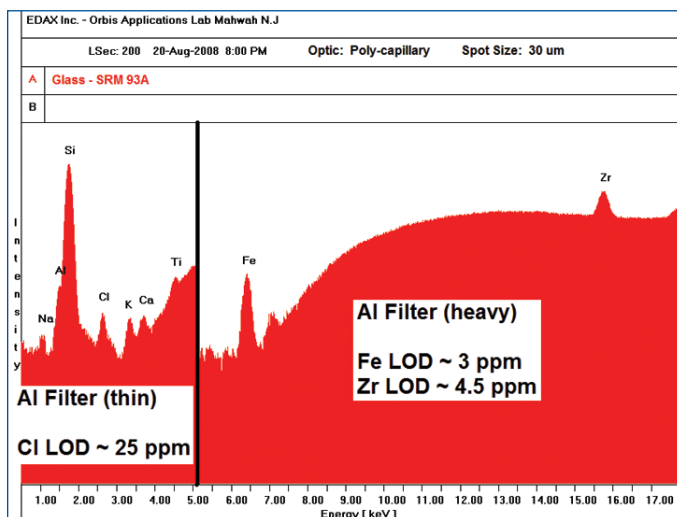

Figure 1: Orbis XRF spectrum (logarithmic intensity scale) of SRM 93A glass using two primary beam filters.
In Figure 1, analysis of glass using the 30 μm poly-capillary and primary beam filters for comparative purposes and compositional analysis is shown. Analysis of Cl down to an LOD ~ 25 ppm was achieved using a filter to remove the overlapping Rh(L) tube scatter line.